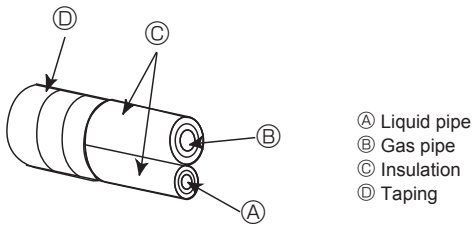
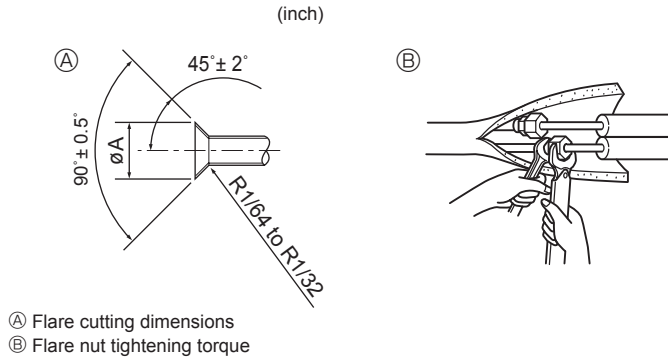

Fig. 4-4
Fig. 4-5
### 4.3. Connecting pipes (Fig. 4-4, Fig. 4-5)
[Fig. 4-5]
(A) (Fig. 4-5)